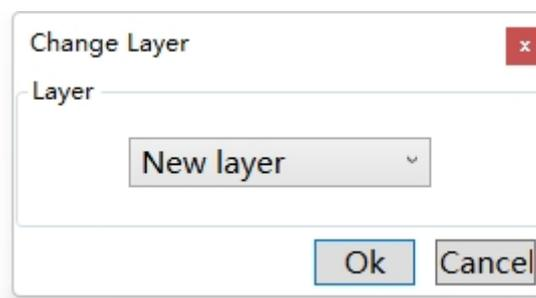

Fig. 5.3.14b Pop-up Window for Layer Change
Operation: ① Select the graphic that needs to change the layer. Here, take graphic 2 as an example, click the "Change Layer" button, and the pop-up window is shown in Fig. 5.3.14b below.